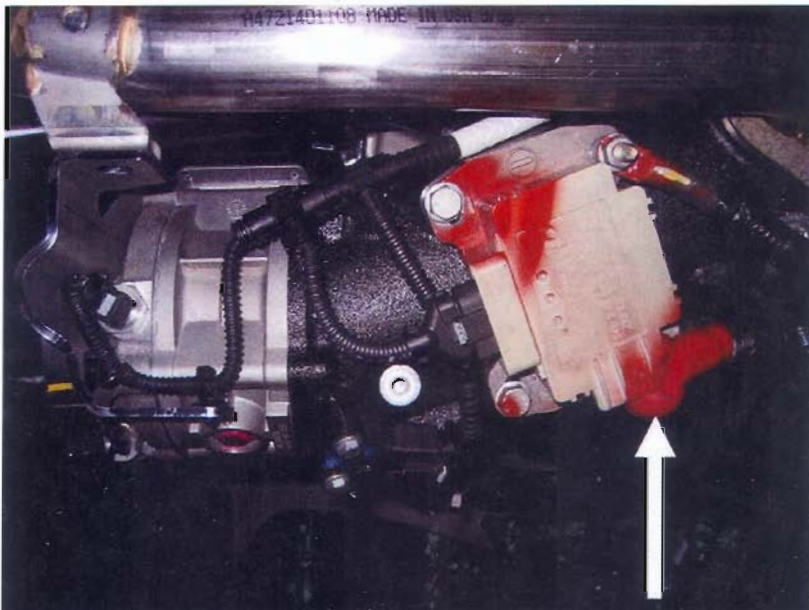

Figure 3 – Positive Cable Connection At Grid Heater
9. Disconnect the positive cable from the grid heater. See Figure 3.